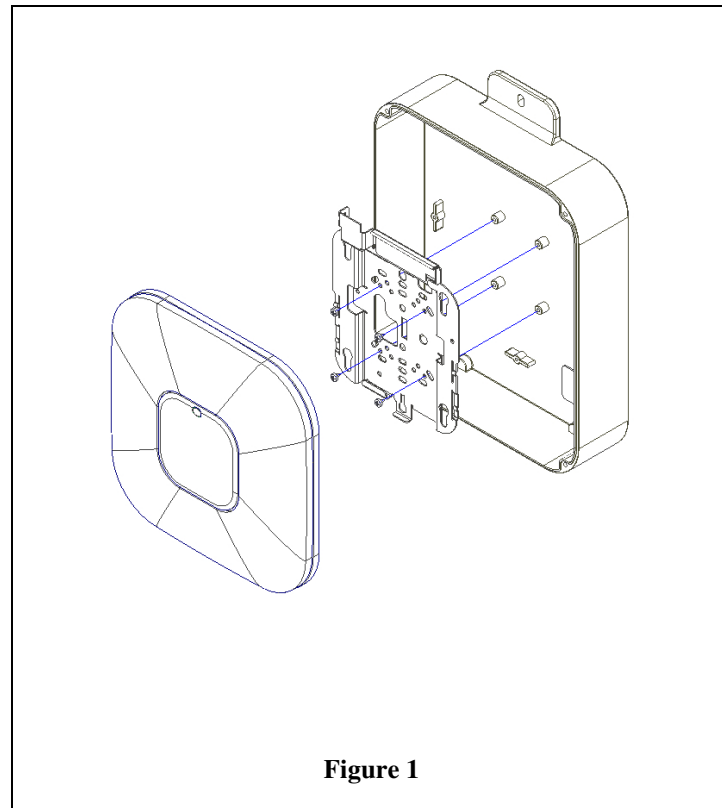

Figure 1
Step 3a – (For Cisco APs Only) Install Cisco's Access Points by fastening the Air Bracket with the included #6 x 1/4" screws (Figure 1).